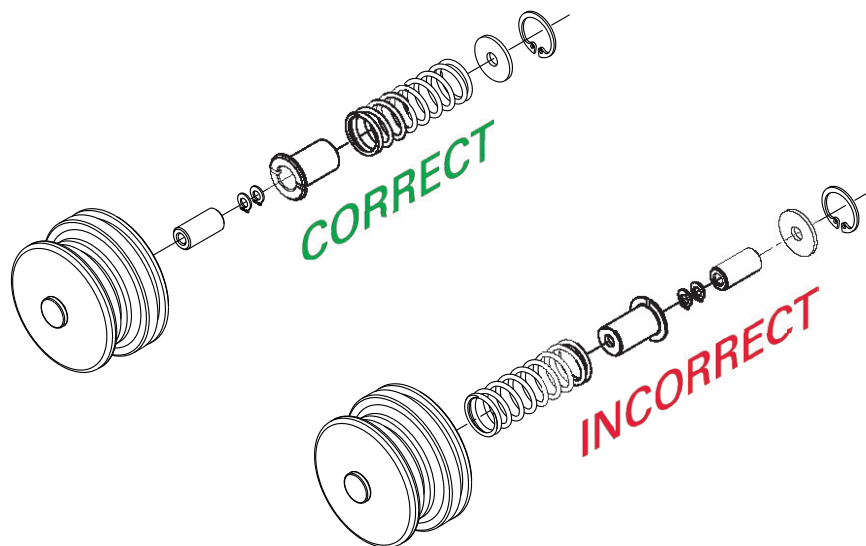

Figure 3: Correct order of internal components
- Inspect the piston assembly to ensure the internal components are in the "Correct" order shown in Figure 3.